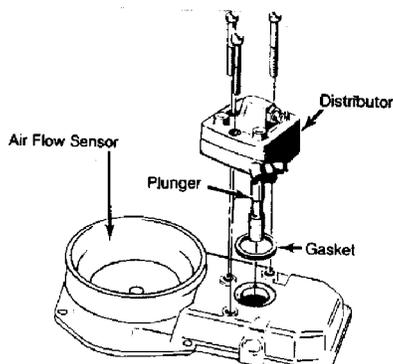

Fig. 8: Removing Fuel Distributor Control Plunger
4) Remove 3 screws from fuel distributor and lift off of air flow sensor housing. Be careful not to drop control plunger. See Fig. 8.